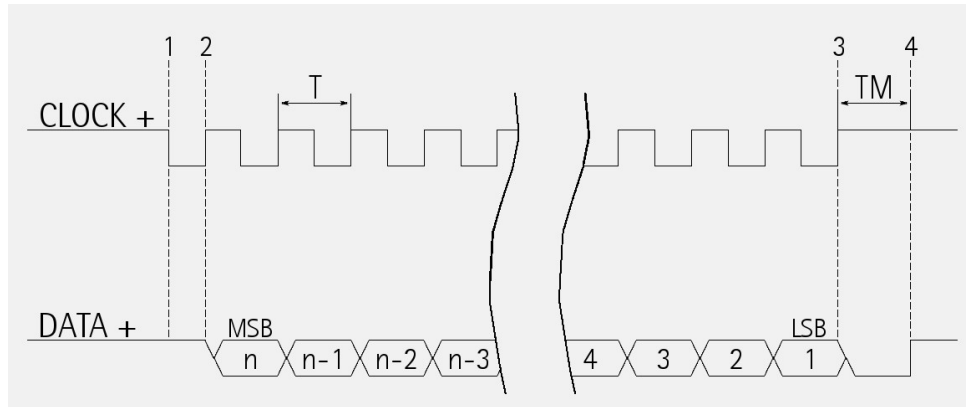

Figure 1 - Data word transmission scheme
5.2 Working principle (Figure 1)